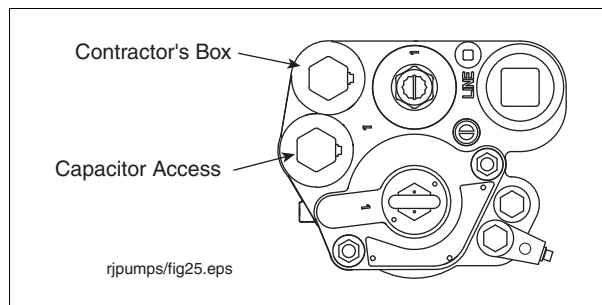

Figure 33. Locating contractor's box and capacitor compartment
1. Remove capacitor access cover (see Figure 33).
1. Remove the contractor's box cover (Figure 33 on page 38). Remove and discard the o-ring from the cover. Set aside the cover.